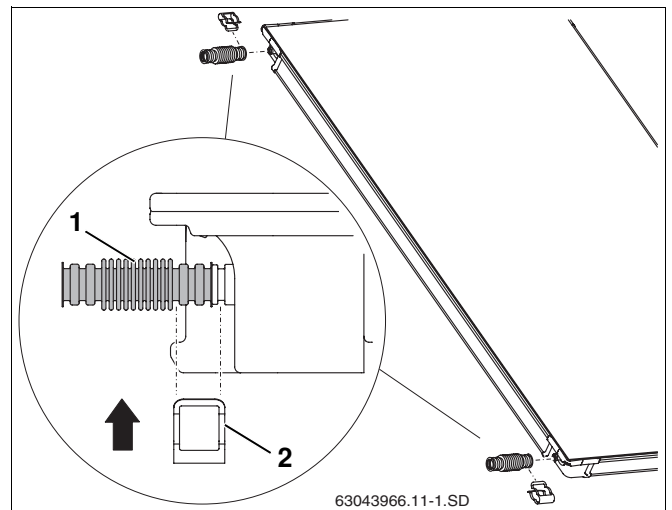

Fig. 45 Fitting corrugated pipe connectors to the first collector
- Push corrugated pipe connectors (Fig. 45, **Item 1**) onto the left-hand connections on the first collector.
- Push bracket (Fig. 45, **Item 2**) over the corrugated pipe connector and collector connection to secure the connection.